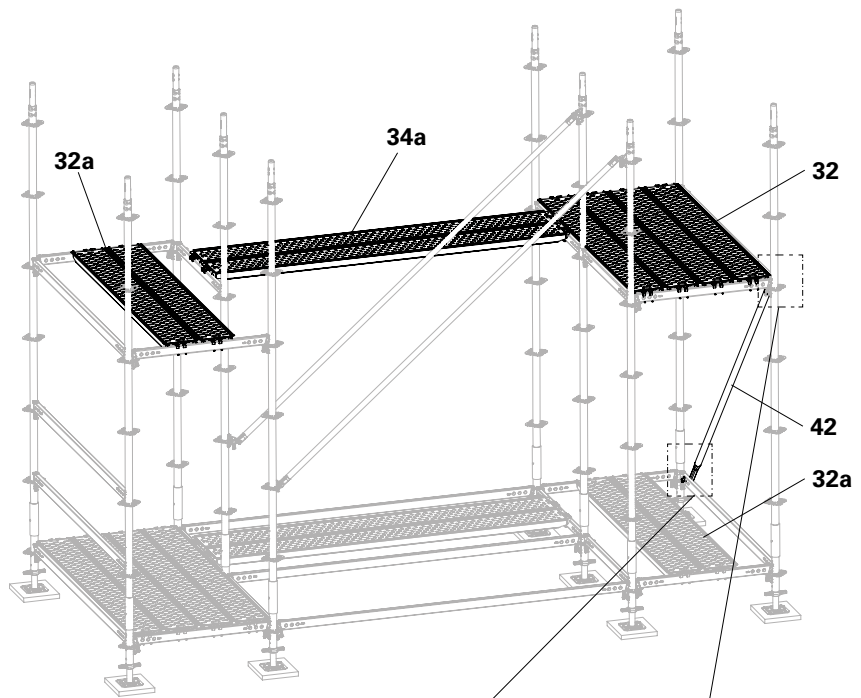

Fig. A2.05
2. Fit Steel Decks UDG-2 (**32a + 34a**) as an assembly aid. (Fig. A2.05)